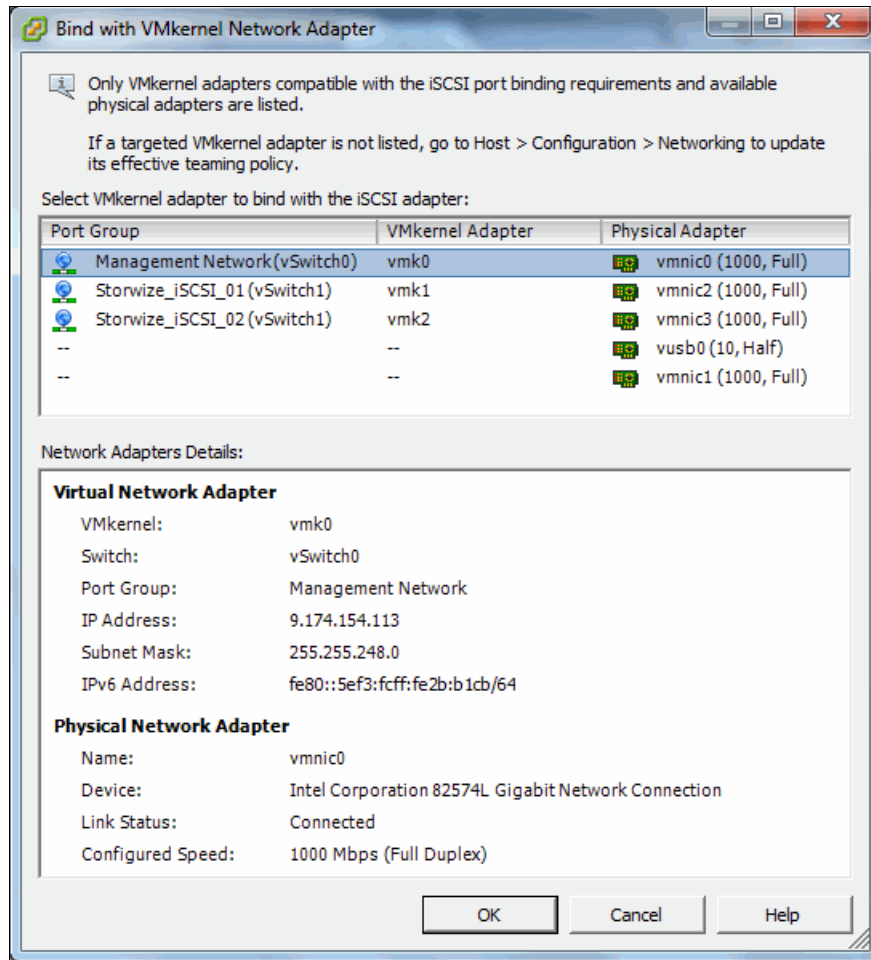

Figure 4-25 Adding VMkernel ports to the iSCSI Adapter
14. The window shown in Figure 4-25 should open. Click **OK** to add the first port, then repeat for the second.